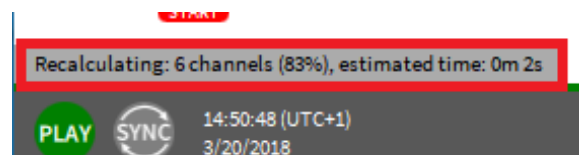

Fig. 7.179: Progress indicator for Offline Math calculations
- A *Progress indicator* will inform about the actual calculation progress (see Fig. 7.179) and contains information about the number of calculated channels, the calculation progress in percent and the remaining calculation time: